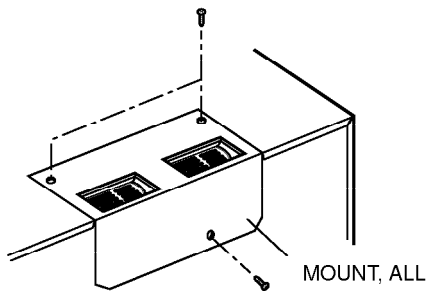

Figure 27
- (2) Remove the two screws securing the MOUNT, ALL and one screw securing the ventilation fan ASS'Y. (See Figure 27)